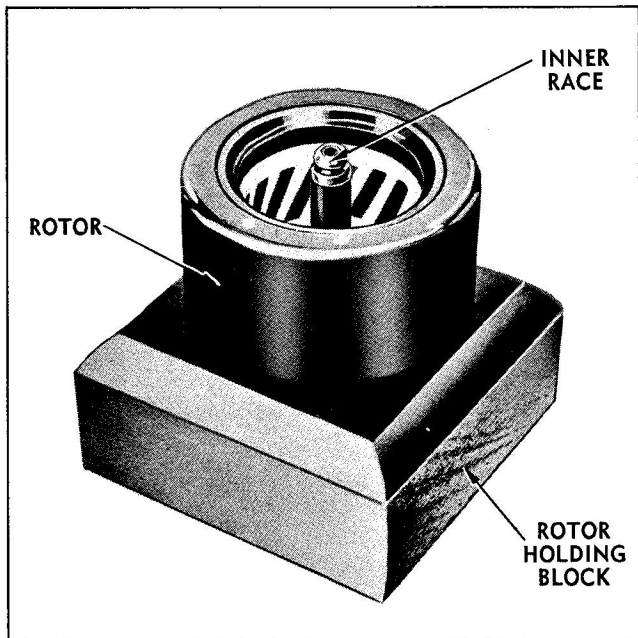

Figure 2-17 Gyro Rotor in Holding Block
(2) Remove the cover and stator from the case. A groove is provided at the mating flanges of the cover and case to assist in separation. The use of a screwdriver to work the two flanged surfaces apart is permissible.
(3) Remove the gyro rotor from the case and place it on the rotor holding block to protect the bearing inner races. (See figure 2-17.)
(4) Using bearing puller T100371 remove the bearing from the rotor housing. For the S-3B/C the retainer will come with the bearing. These may be pulled apart. The bimetallic disc
(k) Removing the gyro inner races. Each end of the gyro rotor shaft has a rotor bearing inner race pressed onto it. (See figure 2-17.) If it is necessary to replace these races during overhaul, remove the old races from the rotor shaft using Bearing Puller T-100929.